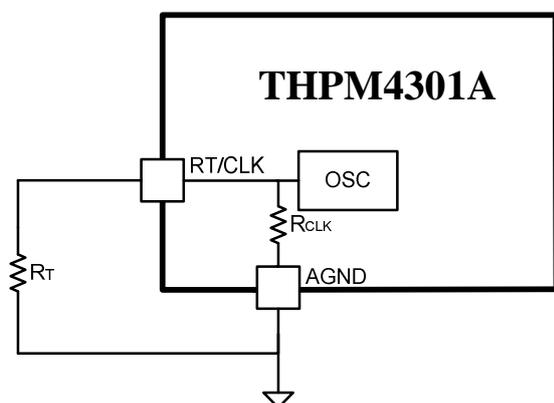
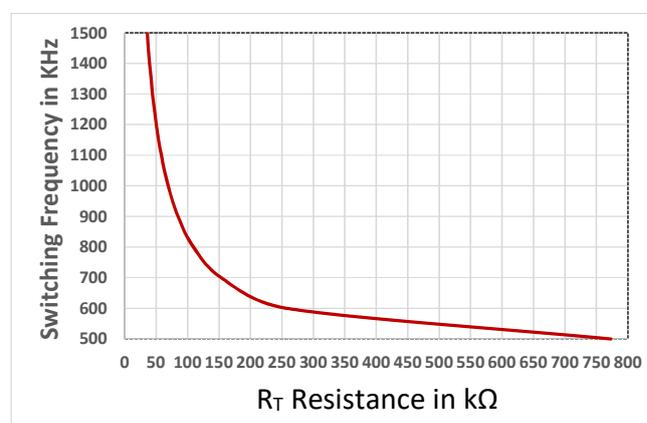

Fig. 33 Switching Frequency Adjustment
Fig. 34 Switching Frequency vs  $R_T$  for THPM4301A
The user can increase the switching frequency by adding an external resistor,  $R_T$ , between RT/CLK pin and AGND, as shown in Fig. 33, where  $R_T$  is calculated using Equation (9). The relationship between switching frequency and  $R_T$  resistor value is shown in Fig. 34.